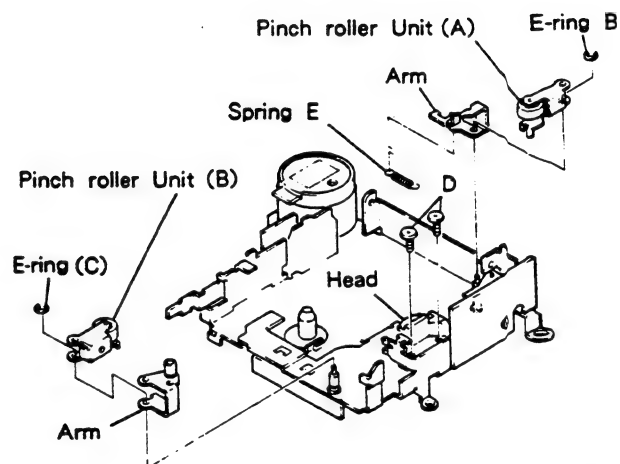

Fig. 7
10. Remove spring E. (Fig.7)
11. Remove E-ring B. The pinch roller unit(A) can be removed. (Fig.7)
12. Remove E-ring C. The pinch roller unit(B) can be removed. (Fig.7)
13. Remove two screws D. The head can be removed. (Fig.7)